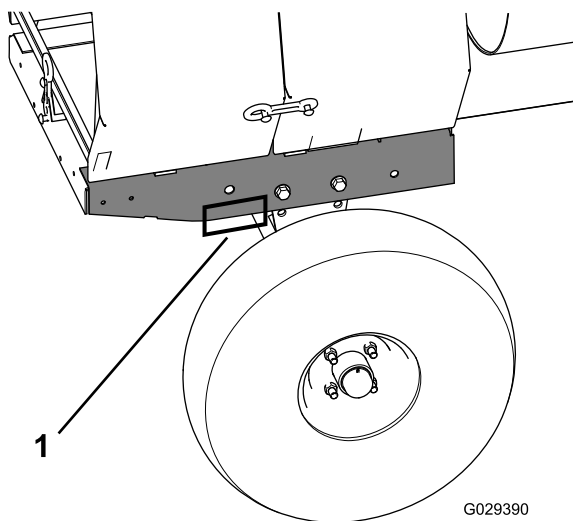

Figure 22
6. Use a jack stand at each support point on the rear frame extension (Figure 22).